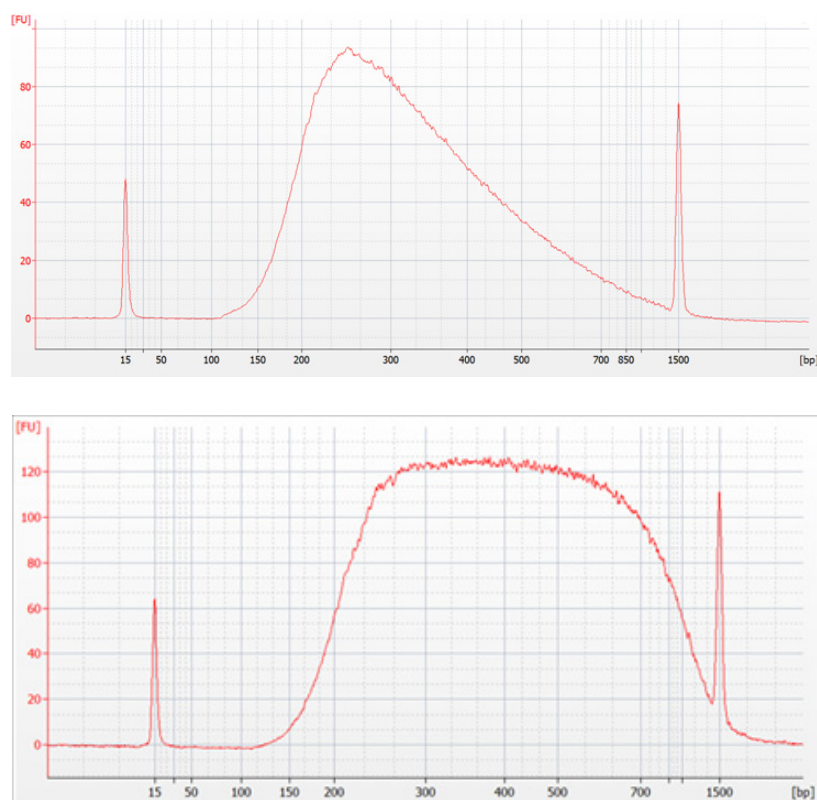

Figure 5 Representative sample electropherograms showing pre-capture analysis of amplified library DNA using the Agilent 2100 Bioanalyzer and a DNA 1000 Assay.
- 3 Verify that the electropherogram shows the peak of DNA fragment size positioned between 245 to 325 bp. Sample electropherograms are shown in Figure 5. Variability of fragmentation profiles may be observed.